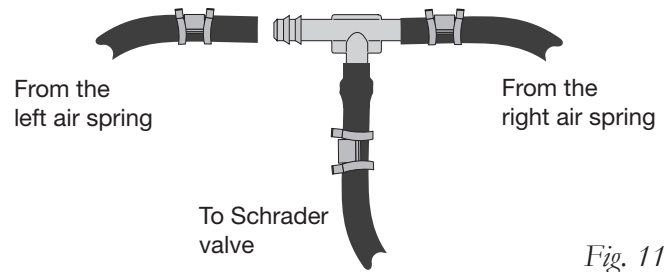

Fig. 11
4. Use this procedure (Fig. 11) for all air line connections: